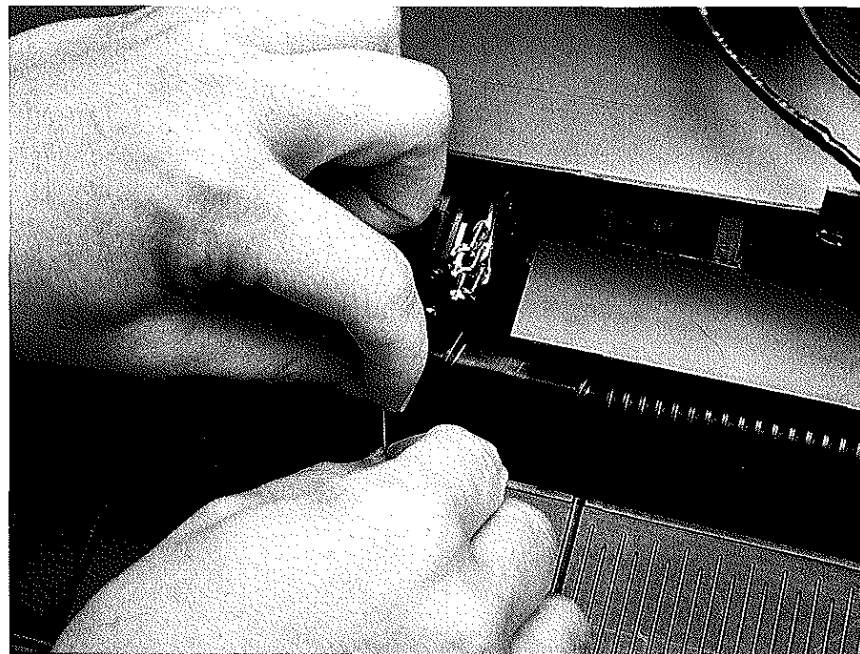

Figure 8-13
4. If adjustment to a sensing switch finger is necessary, support the wire near the center and carefully bend the lower part of the wire (Figure 8-13). If bending to the right, bend the wire *no more than 1/4 inch (7 mm) past perpendicular*. Check each adjustment for the two criteria given in Step 3 above, then verify the final adjustment by processing several slides across the platen, as described in Part E, Step 6 above. If these adjustments do not result in correct timing, contact the Customer Service Department by calling toll free 1-800-348-8100 (continental U.S. only). Outside of the United States, contact your nearest HEMA-TEK® instrument representative or distributor.